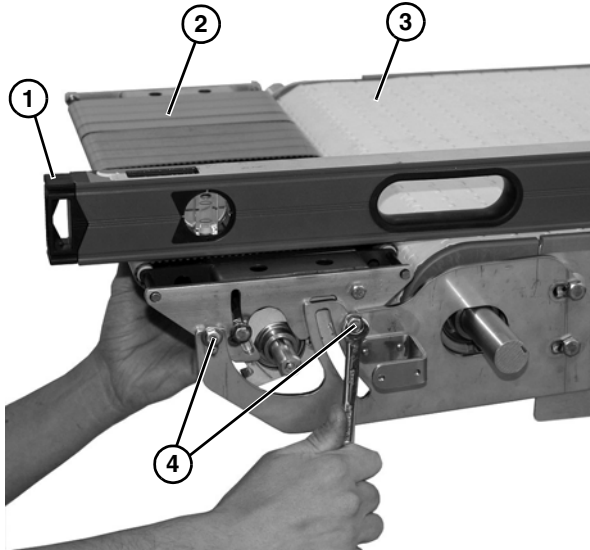

Figure 11
- To adjust height, place level (**Figure 11, item 1**) or straight edge to level power transfer assembly (**Figure 11, item 2**) with conveyor belt (**Figure 11, item 3**). Tighten two bolts (**Figure 11, item 4**) to secure position.